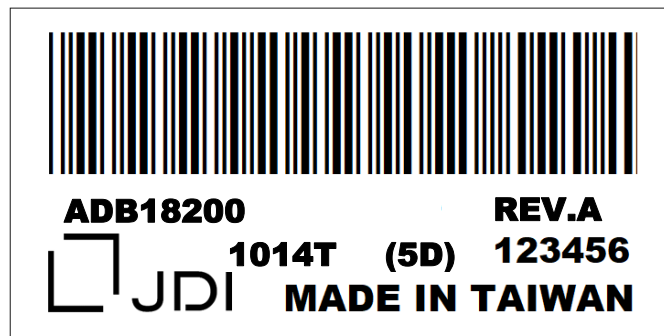

Fig. 9.2
4) The location of the lot mark is on the back of the display shown in Fig. 9.2.